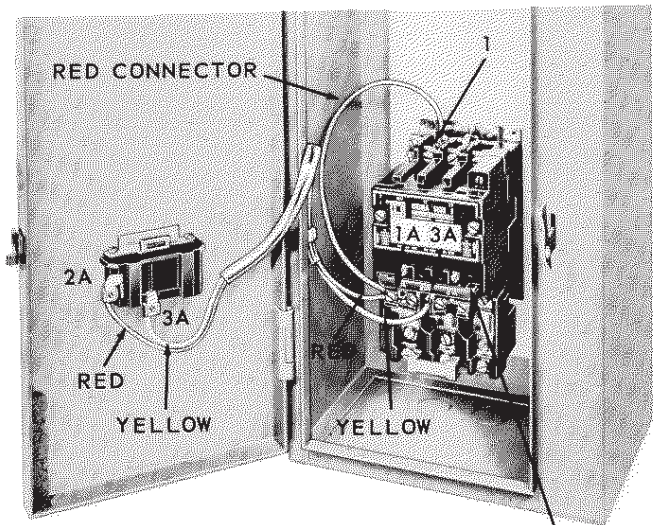

Figure 5
- Press terminal block into place (see Fig. 5).
- The wire clip should be mounted with flat portion located on inside of left cabinet wall. The clip should be against the front inside wall, with opening facing rear wall. The clip should be at the same height as the center of the selector-switch. Remove backing and press clip in place. Route harness through clip (see Fig. 5). **NOTE:** Adjust harness wires in tubing so they do not interfere with operation of reset button.